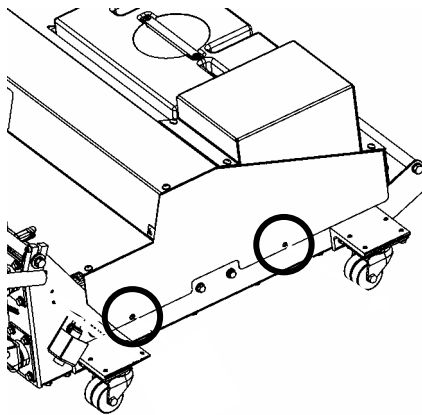

Figure 4-2
1. Remove the two screws, shown in Figure 4-2, from both sides of the hood and lift the hood from the frame. Set aside the screws.